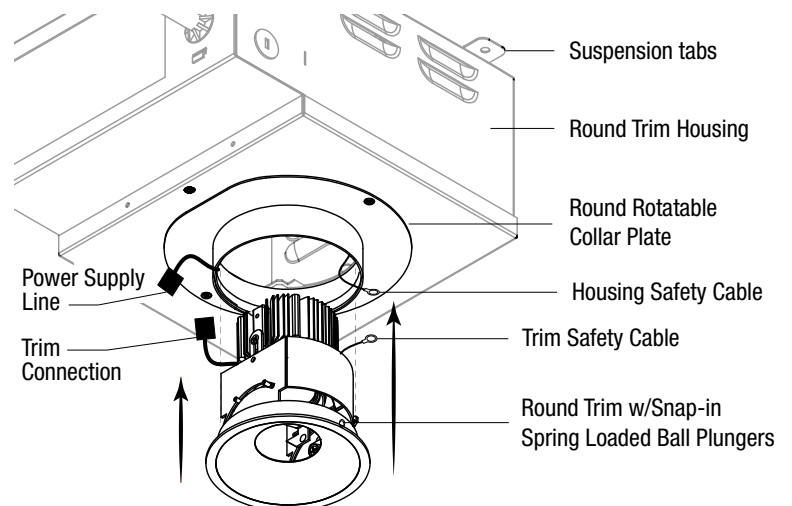

FIGURE 5
Step 3. Push the trim into the housing collar. The spring loaded ball plungers will snap into place **See Fig 5.**